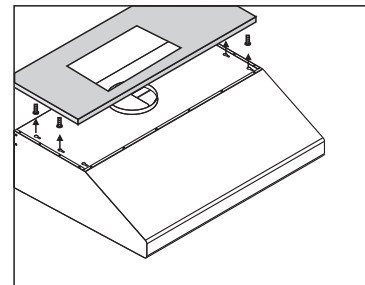

Fig.11
2. A FLUSH BOTTOM MUST CUT AN AT LEAST 6"X6" BY SQUARE TO FIT FOR A DUCTING VENTILATION (REF FIG.11)
- b. The large part of the keyhole mounting slots on the hood fit onto the hood mounting screws projecting from the bottom of the cabinet. (Fig. 11)